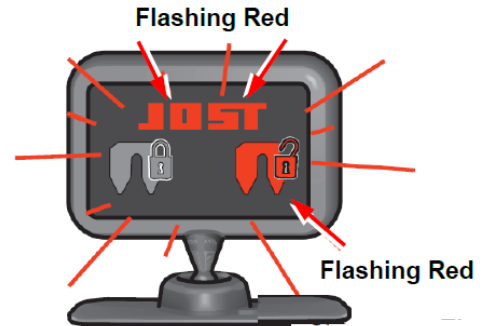

FIGURE 11
4. RELEASE HANDLE AND LEVER W/BUSHING (see figure 11)
- THE DASH DISPLAY IS FLASHING RED WITH AN AUDIBLE WARNING (see figure 11).